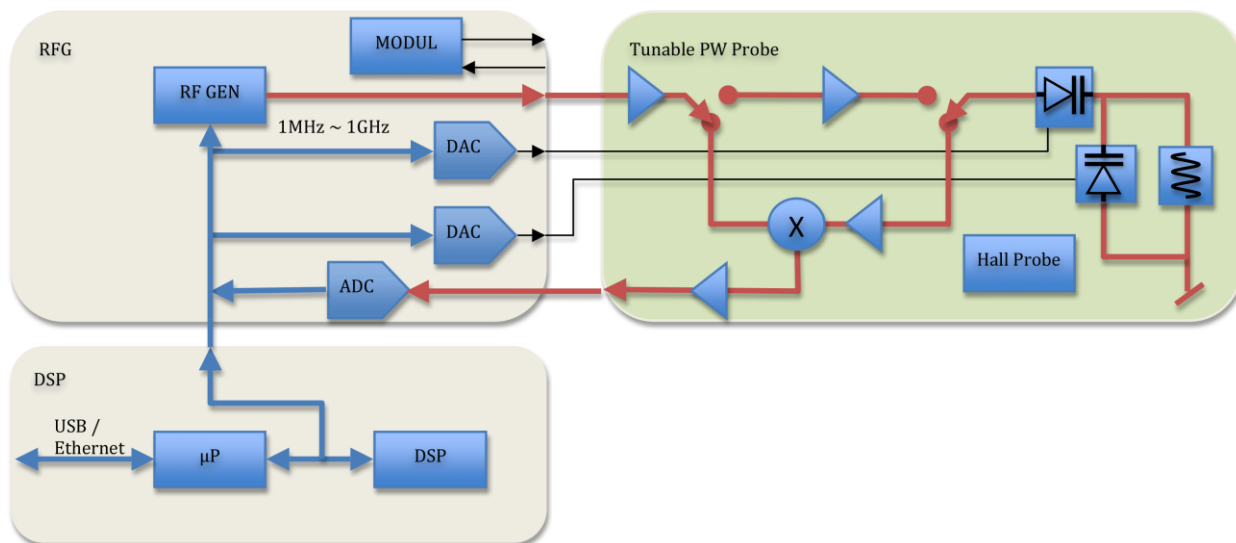

Figure 9. PT2026 functional block diagram.
For almost a decade, Metrolab has been working on a new-generation, “all digital” NMR magnetometer, the PT2026. As we can see from Figure 9, the term “all digital” is to be taken with a grain of salt: “all digital control” is more accurate. Other important technical improvements include:
- **Detection:** support for either continuous-wave (CW, like PT2025) or pulsed-wave (PW, as shown in Figure 9). Improved performance in poor-SNR environments due to sophisticated Digital Signal Processing (DSP).